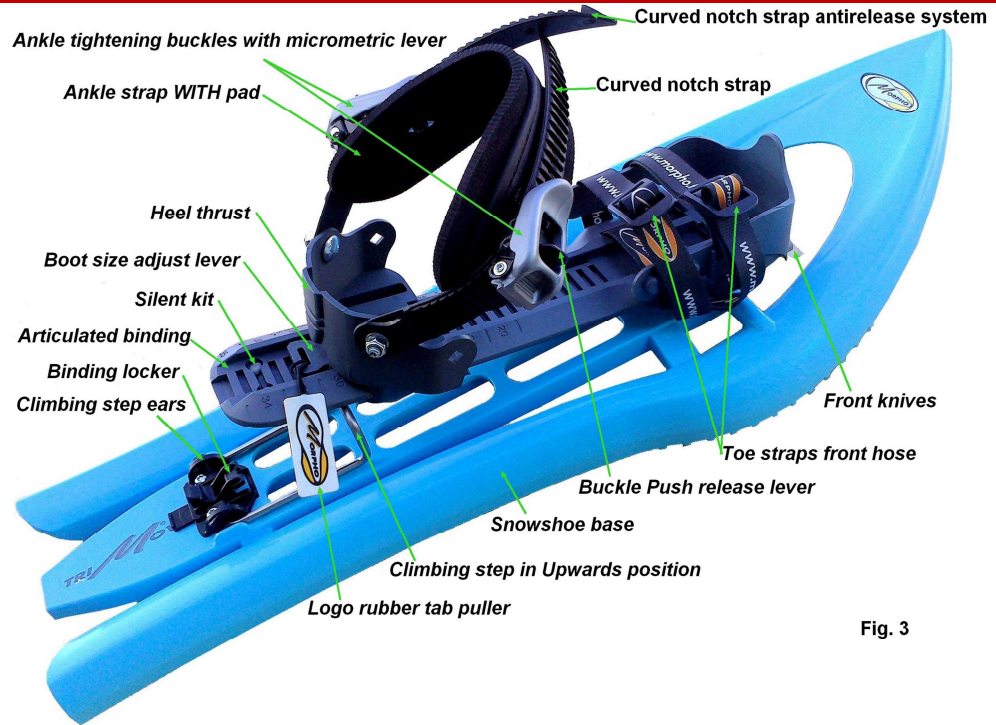

Fig. 3
1. Untighten **ankle strap** (by loosening completely one of the **two notch straps** from one of the **two buckles** of the strap) as well as the **2 toe straps** so as to insert your boots and to adjust the **heel thrust** of **articulated binding** plate to your boot size. See Fig.3
6. **Snowshoeing**: keep **articulated binding plate free** from snowshoe base when going flat, traverse, uphill or downhill: the **binding locker** must be switched backwards in all cases. The articulated binding must **lay flat** on the snowshoe base or **stepping** on the extra high **metallic climbing step** when climbing steep slopes: for this purpose rotate the **climbing step** forward in its upwards position (fig.3) from its idle position (fig.2) with your gloves or with the tip/washer of your ski pole.
7. **After use, untighten ankle strap** first: push on the **release levers**(black) of the ratchet buckles(grey) and pull out the ankle strap from one of the notch straps(the one without antirelease system) while keeping pressure on the **buckle push release lever**. Then untighten the 2 toe straps: pull up the ends of the quick buckles and loosen the webbings. See fig 3. Remove your boot. **To store** the snowshoe push the articulated on the base and lock it to the base by **moving forward the binding locker**. See fig.2